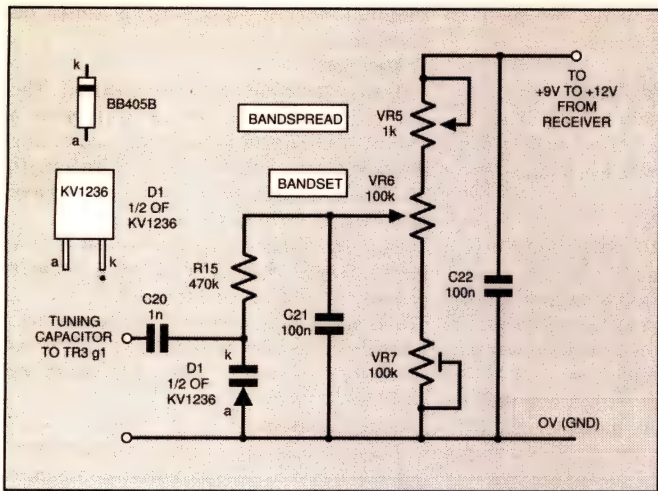

Fig.2. Alternative electronic tuning system. For fine tuning only, delete VR5 and C22, use a BB405B varicap diode and reduce C20 to 50pF.
*C20	1n (1000p) or 50p polystyrene (See Fig.2).
A suitable, add-on, electronic tuning circuit is given in Fig.2. Potentiometer VR6 controls the reverse bias on varicap diode D1 and varies its junction capacitance. This forms the coarse, or Bandset, tuning control.